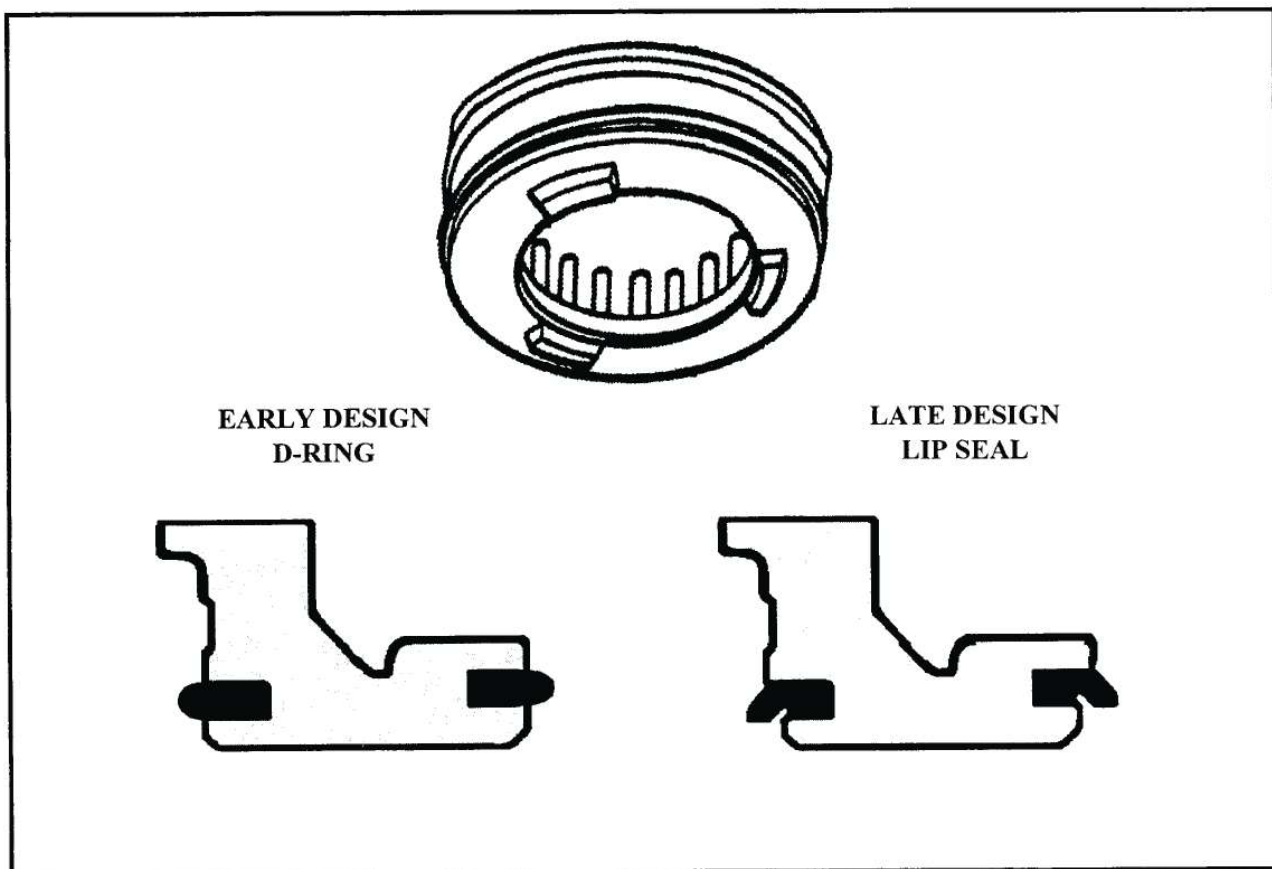

Figure 40
**CHANGE:** Both the overrun clutch and direct clutch piston seals were changed in 1987 from "D"-ring seals to lip seals (See Figure 40).